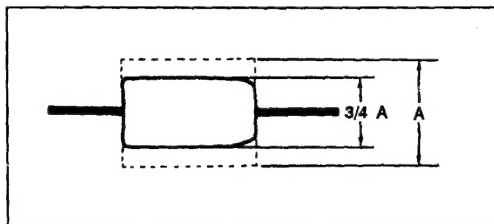

Fig. 4-12.
- 1) Confirm that the amplitude of RF waveform is reduced to approx. $3/4$ when the track shift mode is set (See Fig. 4-12).